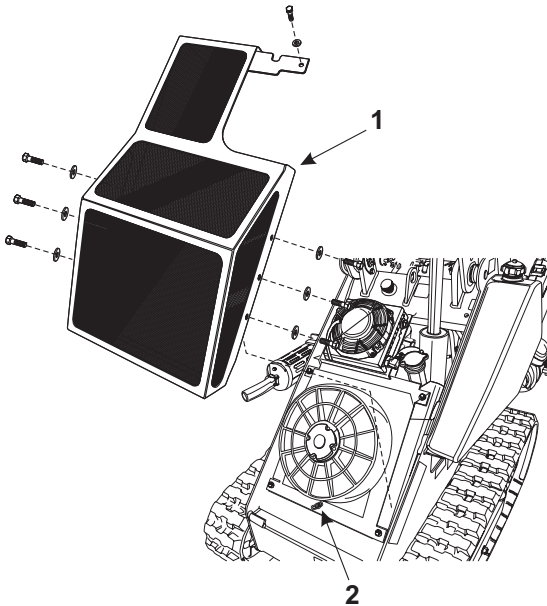

Figure 4-26 Radiator Drain
- a. Remove the protective screen (Item 1, **Figure 4-26**) from over the engine radiator and hydraulic radiator.
- d. Open the petcock (Item 2, **Figure 4-26**) at the bottom of the radiator and allow all of the coolant to drain from the radiator.